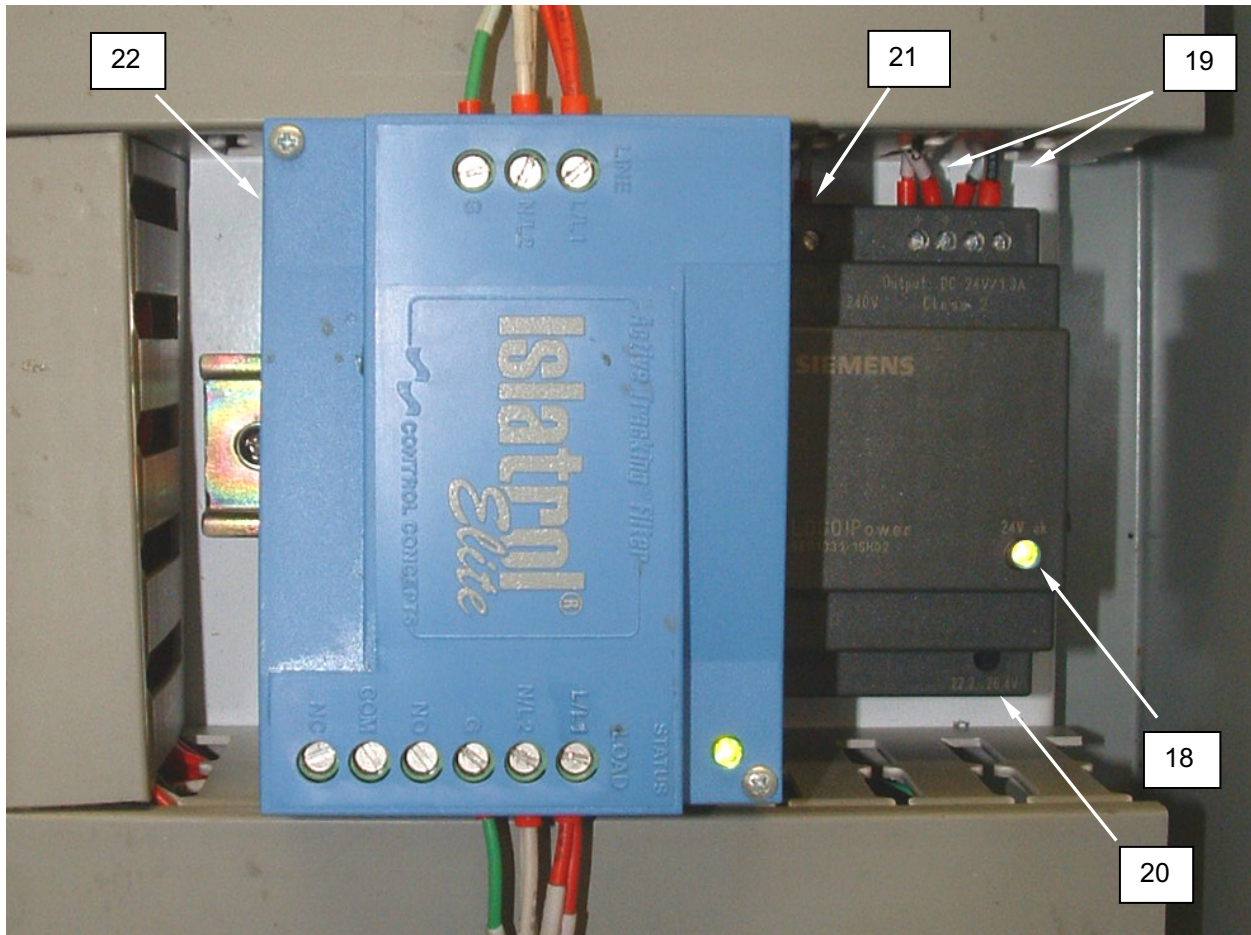

Figure 15. Test DC Power Supply.
3. Ensure the 24 VDC indicator LED (**Figure 15, Item 18**) is lit.
4. Use a voltmeter to test for 24 VDC output (**Figure 15, Item 19**) between the + and – terminals on the power supply (**Figure 15, Item 20**).
5. If there is no 24 VDC output (**Figure 15, Item 19**) and the LED (**Figure 15, Item 18**) is not lit, use a voltmeter to test for 120 VAC input (**Figure 15, Item 21**) to power supply (**Figure 15, Item 20**). If no voltage is supplied to power supply, test surge arrestor (**Figure 15, Item 22**) IAW procedures given in this WP.
6. Replace an inoperative power supply (**Figure 15, Item 20**).